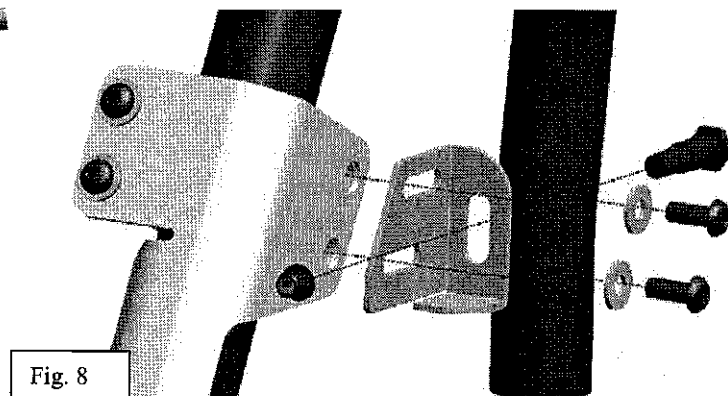

Fig. 8
4. Refer to Fig. 8. Use (4) M8 x 30mm screws and (4) M8 washers to fasten the driver latch pin bracket, driver striker mount bracket, and inner tube clamp.
5. Install the striker pin, M10 flat washer and M10 nylock nut as shown in Fig. 8.